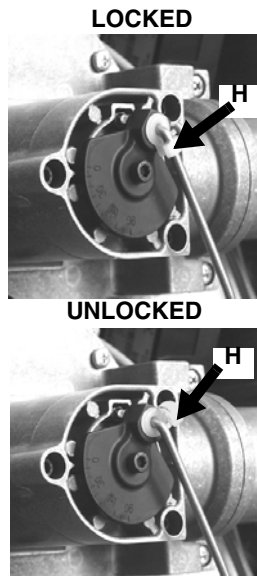

Fig. 41
- 2 Slacken the butterfly valve adjusting rod (Fig. 41) and take it out pulling outside.